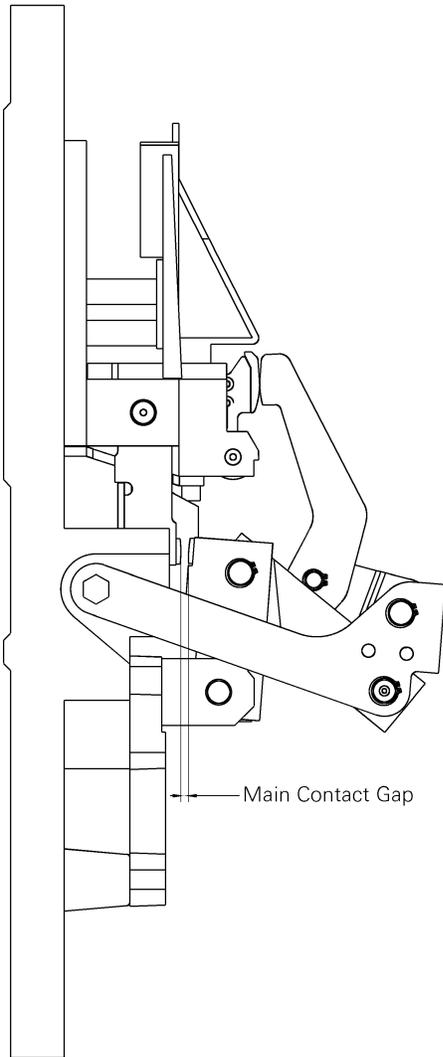

Figure 25. Measuring the main contact gap.
3. Measure the contact open gap between the stationary and movable arcing contacts, as illustrated in Figure 25. This distance should be between 2.5–2.75 inches.
When the arcing contacts are just touching, as illustrated in Figure 25, the intermediate contact gap should be at least 0.19 inch and the main contact gap at least 0.25 inch.